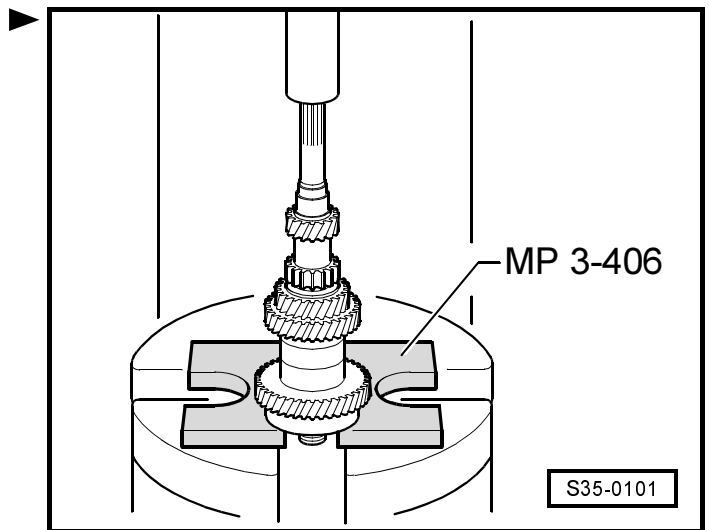

Fig. 3: Pressing out 4th gear pinion
- pressing off ⇒ Fig. 3 in **35-1** page 3